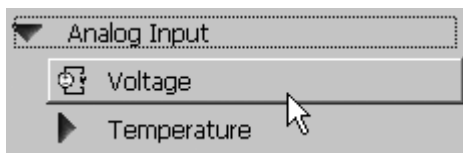

Figure 11.12
3. From the configuration dialog of your DAQ Assistant VI, choose an **Analog Input>>Voltage** measurement type (see Figure 11.12).